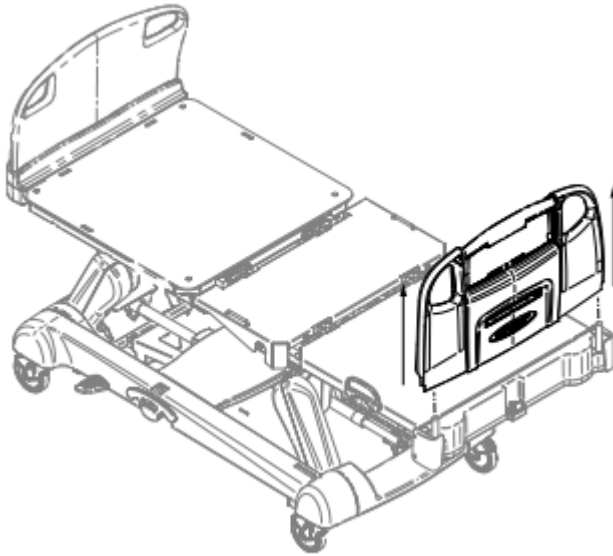

Figure 1
1. Remove the footboard by grasping the handles and lifting the footboard straight up and off the product (Figure 1).